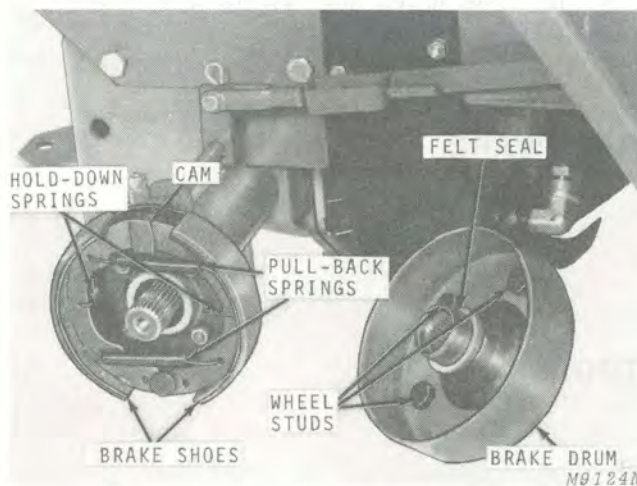
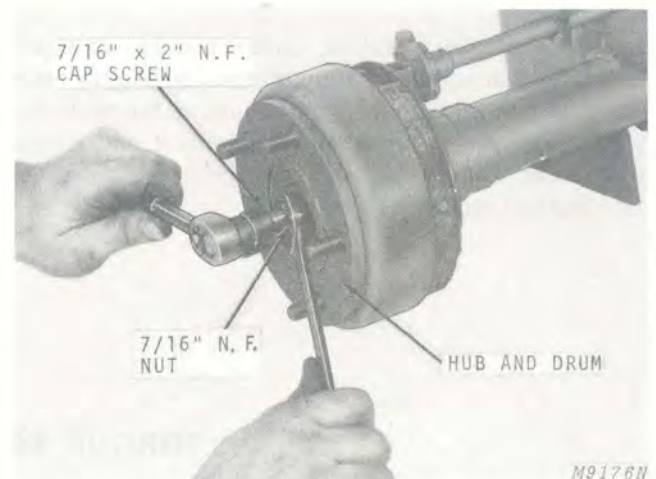

Fig. 6-Inspecting Brake Lining
Fig. 7-Installing Hub and Drum
To remove brake shoes, Figure 6, disconnect shoe pull-back springs and unhook hold-down springs.
To replace brake drum, press wheel studs out of drive hub, Figure 6. Press wheel studs through new brake drum and drive hub.
Assemble shoes and springs to back plate, Figure 6. Pull hub and drum onto axle shaft using a 7/16 x 2-inch NF cap screw, nut, and washer, Figure 7.
*NOTE: Be certain felt seal is in place on hub, Figure 6.*